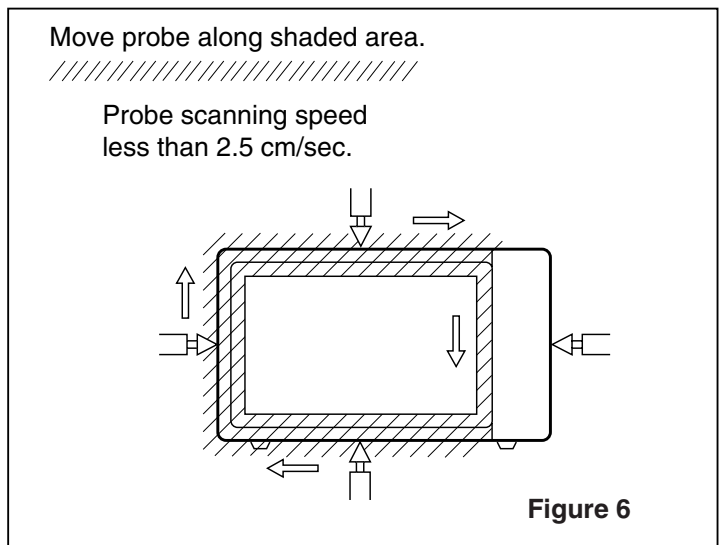

Figure 6
- (1) Pour 275 ± 15 cc of 20 ± 5 °C water in a beaker which is graduated to 600 cc, and place the beaker in the center of the oven.
- (2) Set the energy leakage monitor to 2450 MHz and use it following the manufacturer's recommended test procedure to assure correct result.
- (3) When measuring the leakage, always use the 2 inch (5cm) spacer supplied with the probe.
- (4) Operate the oven at its maximum output.
- (5) Measure the microwave radiation using and electromagnetic radiation monitor by holding the probe perpendicular to the surface being measured. (See Figure 6)